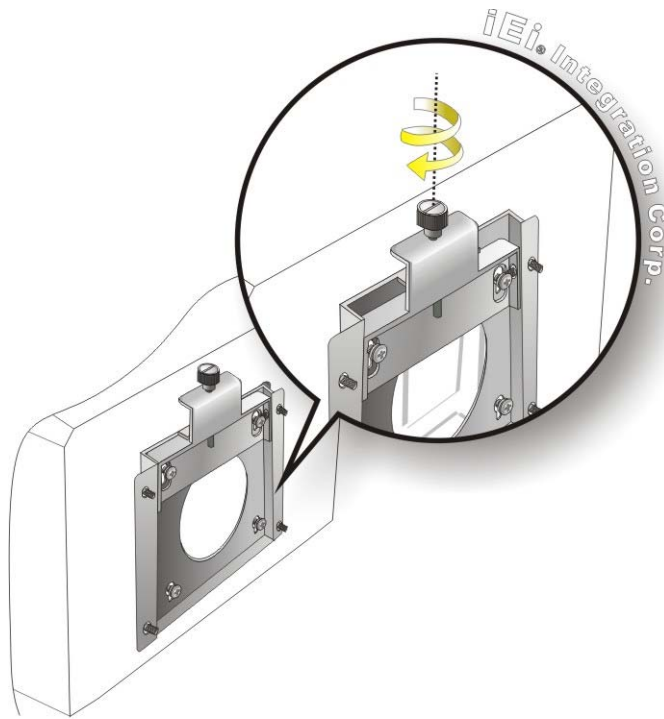

Figure 4-15: Secure the IOVU-572M
Step 9: Secure the panel PC by fastening the retention screw of the wall-mounting bracket. (Figure 4-15).